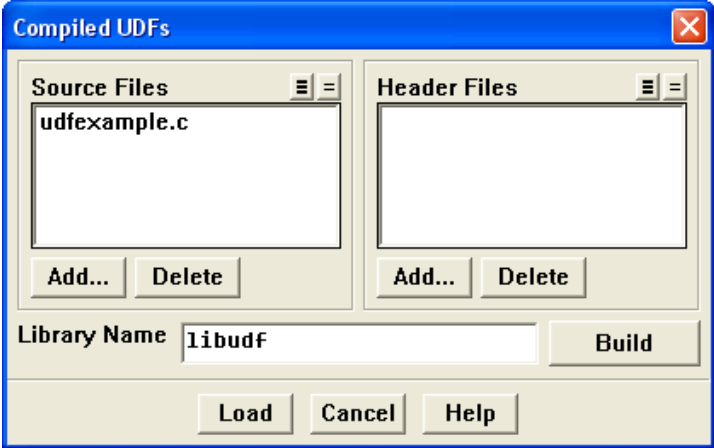

Figure 5.2.3: The Compiled UDFs Panel
The **Select File** panel will close and the file you added (e.g., `udfexample.c`) will appear in the **Source Files** list in the **Compiled UDFs** panel (Figure 5.2.3). You can delete a file after adding it by selecting the source file and then clicking **Delete** in the **Compiled UDFs** panel.
8. In the **Compiled UDFs** panel (Figure 5.2.3), enter the name of the shared library you want to build in the **Library Name** field (or leave the default name `libudf`), and click **Build**. All of the UDFs that are contained within each C source file you selected will be compiled and the build files will be stored in the shared library you specified (e.g., `libudf`).
9. In the Compiled UDFs panel (Figure 5.2.3), load the shared library that was just built into FLUENT by clicking Load.